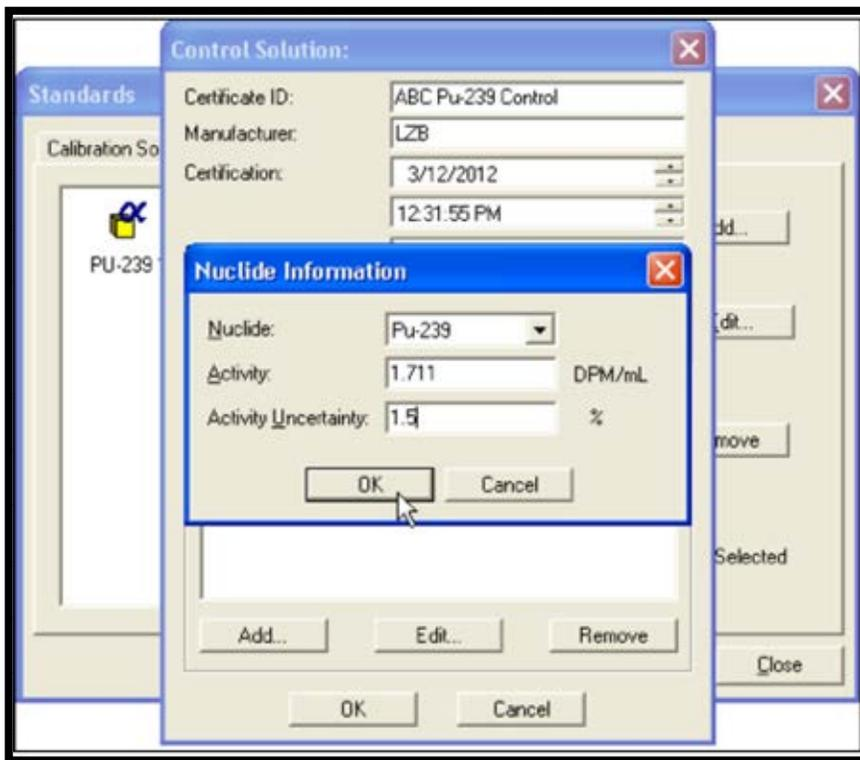

Figure 74. Nuclide Information
Select the **Solution Activity Units** from the drop list and choose **mL** or **g** for the **Quantity Units**. The resulting activity-per-volume units will be displayed beside the **Activity** field on the Nuclide Information dialog (Figure 74).
- 4) To add a nuclide to the Control Solution record, click **Add** to open the Nuclide Information dialog (Figure 74). Select ^{239}Pu from the **Nuclide** drop list and enter its certified **Activity** in the selected activity-per-volume units. If desired, the percent **Activity Uncertainty** associated with the diluted standard can also be entered. This user-defined uncertainty is at the one-sigma level (and is normally based on the uncertainty associated with the preparation of the diluted standard and the stated uncertainty on the laboratory control standard certificate).